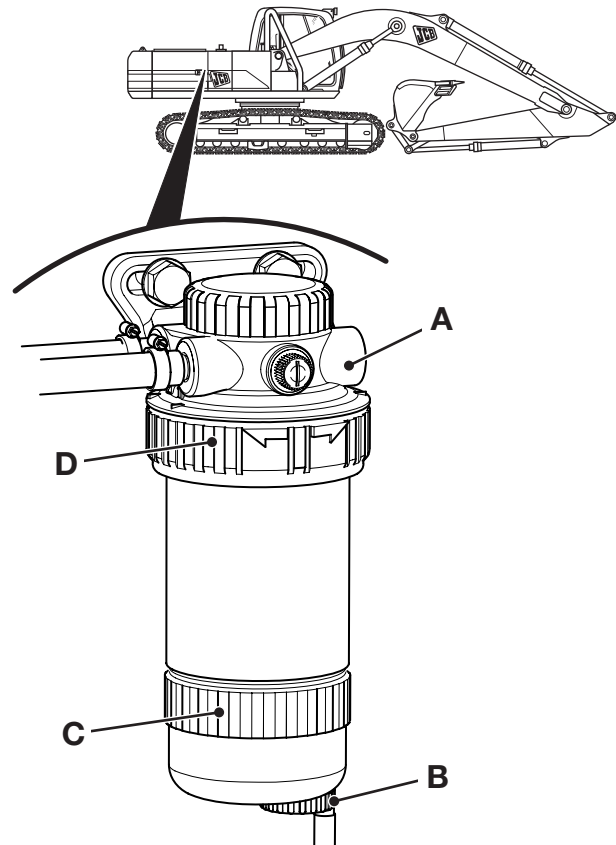

Fig 51.
- 2 Locate filter/sedimenter **A** → Fig 51. \(□ 3-75\).